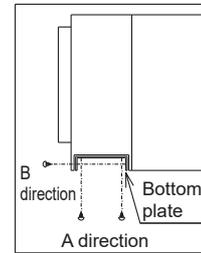

Fig.4
- It is necessary if using filter box PAC-KE63·80·140TB-F (using filter: high-efficiency filter), change the position (up/down) of the retainer plate. Refer to [● Procedure for mounting the filter from the side (1), (2)].
- (1) Remove the bottom plate screws (refer to drawing below) on the filter box. (Fig. 4)